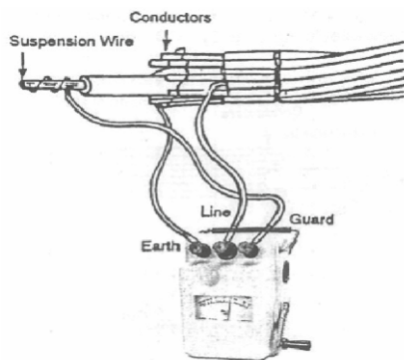

Fig. 3
- When one of the conductor in a multi-conductor cable is to be insulation tested against the remaining conductors, connect the single conductor to be tested with the LINE terminal of the tester, while connecting the combined remaining conductor to the E terminal & connect G terminal to shield so as to eliminate the adverse effect of surface leakage currents that could otherwise develop. (Fig.3.)